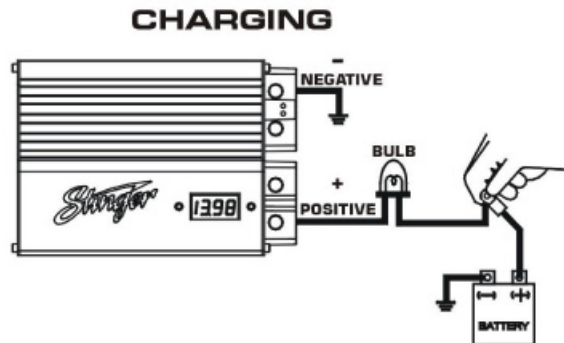

Figure 1
2. Connect the ground cables of the battery, amplifier, and capacitor separately to chassis, and then refer to Fig. 1.